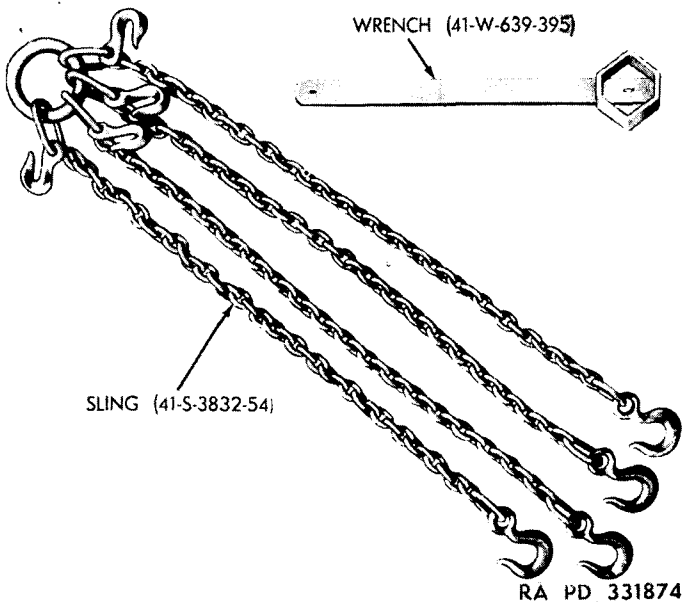

Figure 11. Special tools.
8. List of Special Tools (fig. 11)